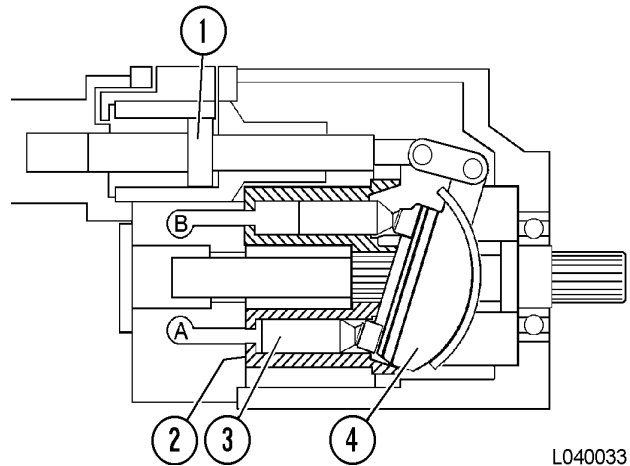

FIGURE 4-12. PUMP AT FULL VOLUME
Control piston (1, Figure 4-12) controls the angle of swashblock (4). When the control piston moves to the full right position, the pump is at maximum pumping capacity.